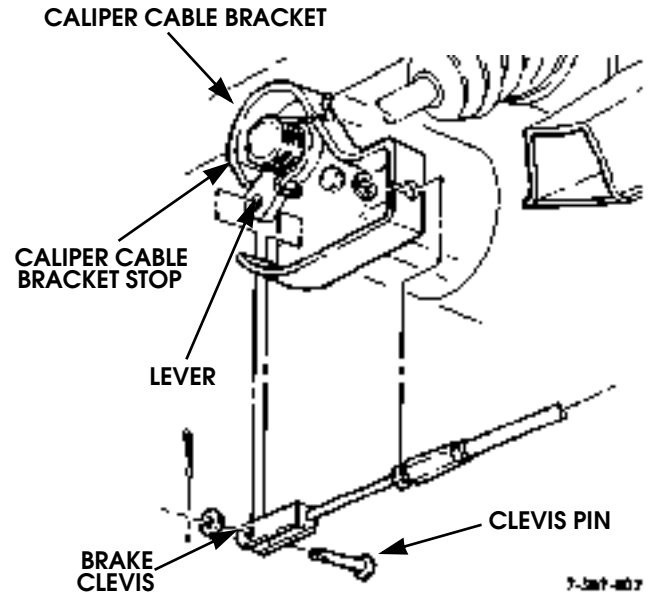

Figure 7-28: Parking Brake Rod Attachment at Caliper
2. Remove cotter pin, washer, clevis pin, and brake clevis from lever. Discard cotter pin (Figure 7-28).